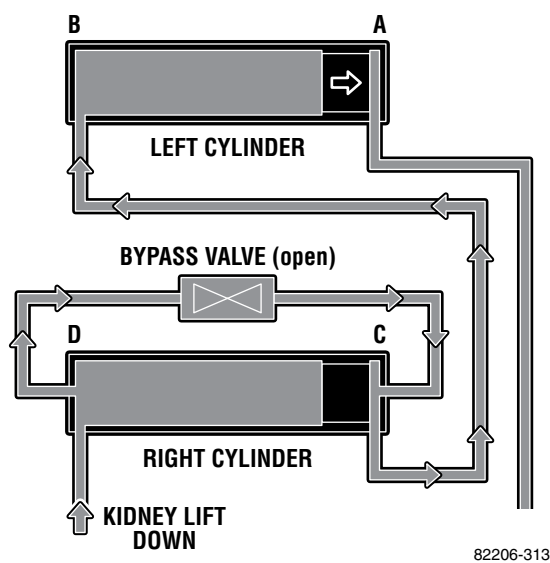

Figure 3-13.
4. Leave the bypass valve open and activate KIDNEY DOWN. Hydraulic pressure keeps the piston in chamber "C", the hydraulic fluid passes through the bypass valve and fills cavity "B" pushing the piston into cavity "A". See figure 3-13.